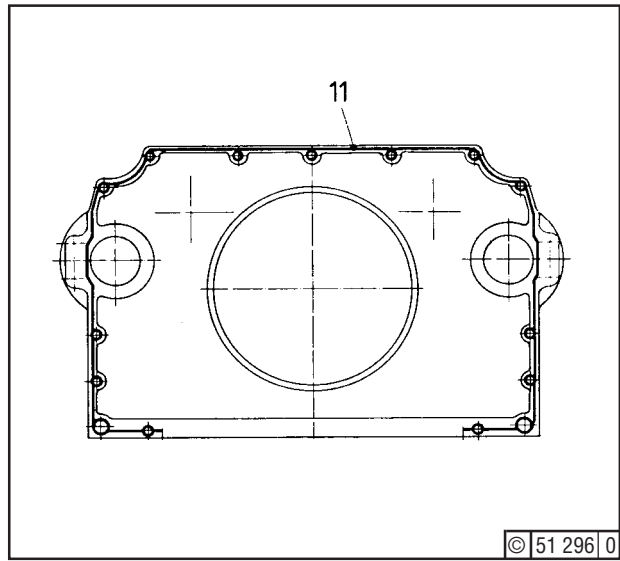

Fig. 3
Carefully clean all surfaces, removing pressure marks carefully by a smooth file or oil stone. Apply Deutz DW 48 as a continuous bead (11) - Fig. 3 - to all joint faces, but of **no more** than 3 mm width.